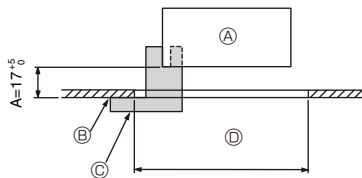
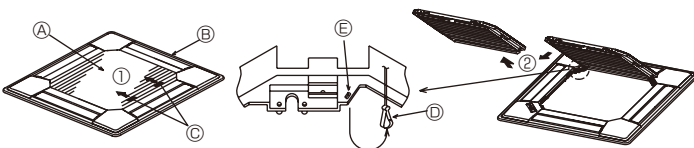
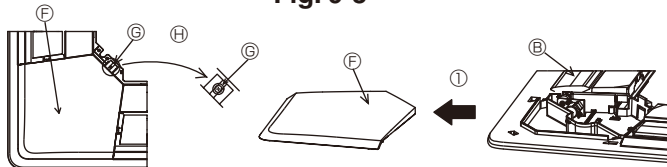

Fig. 9-2
Fig. 9-3
Fig. 9-4
①	Grille	1	950 × 950 (mm)
②	Screw with captive washer	4	M5 × 0.8 × 25
③	Gauge	1	(Divided into 4 parts)
④	Fastener	3
⑤	Screw	4	4 × 8
⑥	Screw	1	4 × 12
⑦	Wireless remote controller	1	for PLP-6BALM
⑧	Wired remote controller	1	for PLP-6BAMD
9.2. Preparing to attach the grille (Fig. 9-2)
- With the gauge ③ supplied with this kit, adjust and check the positioning of the unit relative to the ceiling. If the unit is not properly positioned relative to the ceiling, it may allow air leaks or cause condensation to collect.
- Ⓒ Gauge ③ (inserted into the unit)
9.2.1. Removing the intake grille (Fig. 9-3)
- Slide the levers in the direction indicated by the arrows ① to open the intake grille.
- With the intake grille in the "open" position, remove the hinge of the intake grille from the grille as indicated by the arrows ②.
9.2.2. Removing the corner panel (Fig. 9-4)
- Remove the screw from the corner of the corner panel. Slide the corner panel as indicated by the arrow ① to remove the corner panel.
[Fig.9-3] [Fig.9-4]